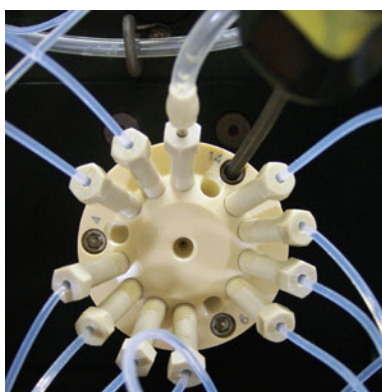

Figure 2. Removing the face plate from the sample selection 14-port valve.
- Remove the 10-32 tan nuts in positions 4, 9, and 14 from the valve. Then remove the face plate using a 7/64 ball driver, turning each screw a 1/2 turn at a time to avoid cracking the face plate (**Figure 2**).